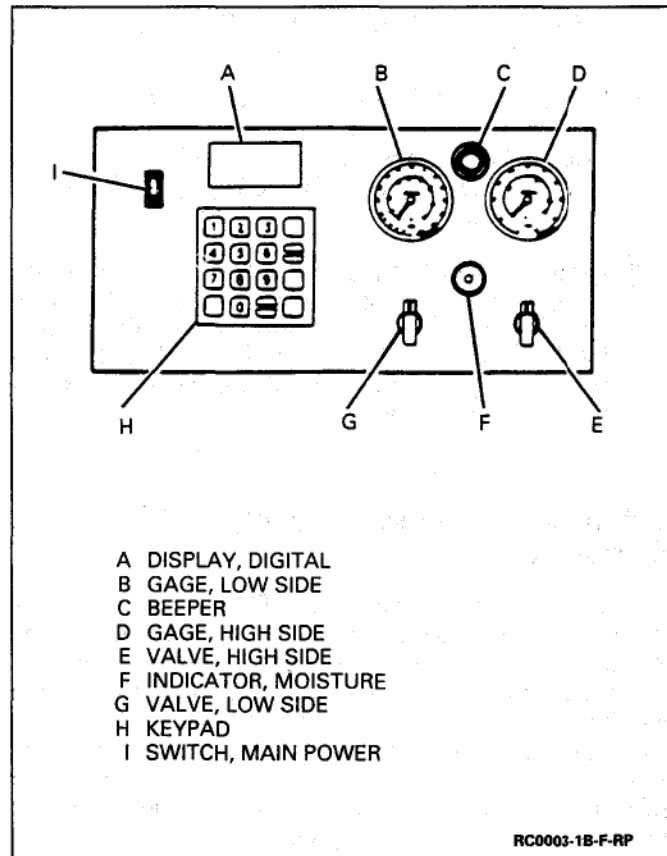

Figure 7 – Control Panel
Figures 7 and 8
This section explains the functions of the various components of the unit control panel (Figure 7).
4. Open both the high-side and the low-side valves on the control panel (Figure 7).